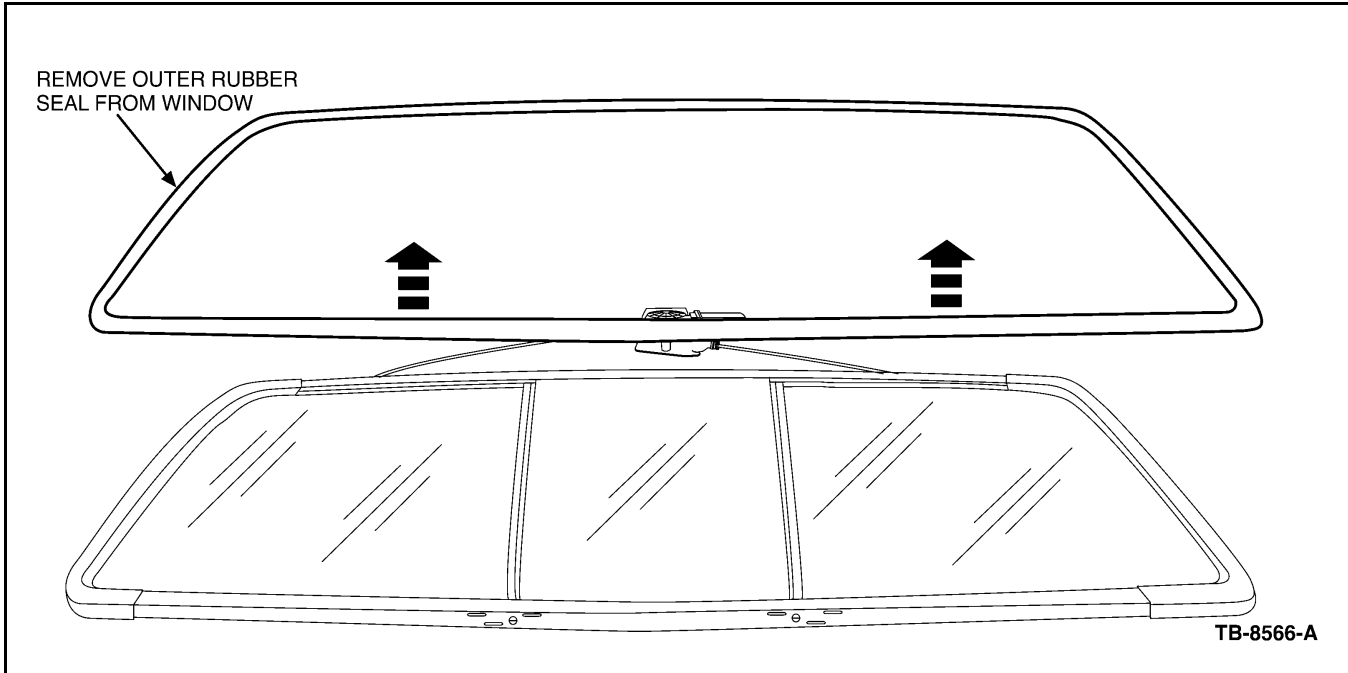

Figure 2 - Article 06-15-5
9. Pull outer rubber seal from window frame (Figure 2).